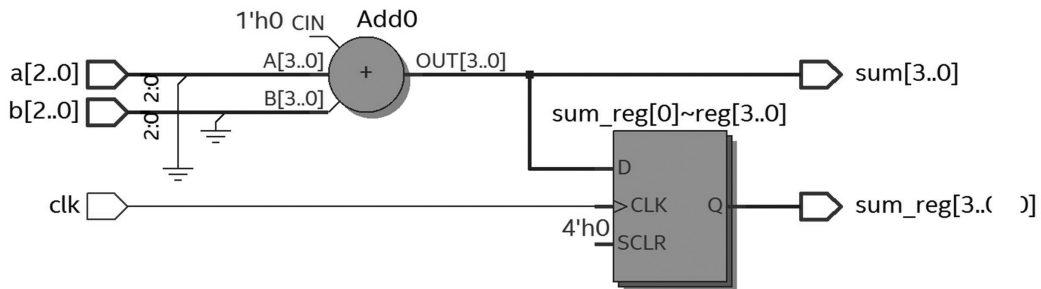

Figure B.5
- RTL View:* This tool shows how the code was *understood* by the compiler. Select **Tools > Netlist Viewers > RTL Viewer**, which exhibits the circuit of figure B.5 (or equivalent). Note that it is in perfect agreement with figure B.1a.